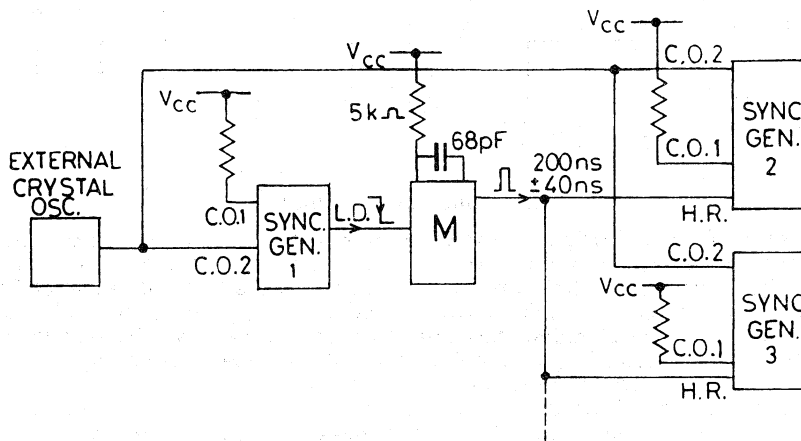

Fig. 3 Line Synchronisation using Horizontal Reset
**Line synchronisation** (Fig. 3) is achieved by using a narrow positive going pulse derived from the negative going edge of the Line Drive output of the first generator to drive the Horizontal Reset inputs of the other generators. This monostable pulse, which should have a width of  $200 \text{ ns} \pm 40 \text{ ns}$ , resets the generators to the start of a line ( $t = 0$ ). This results in the Line Drive waveforms of the driven generators being one reference clock period ( $\approx 800 \text{ ns}$ ) delayed from the first generator. The C.O.2 pins of the generators must be connected together.